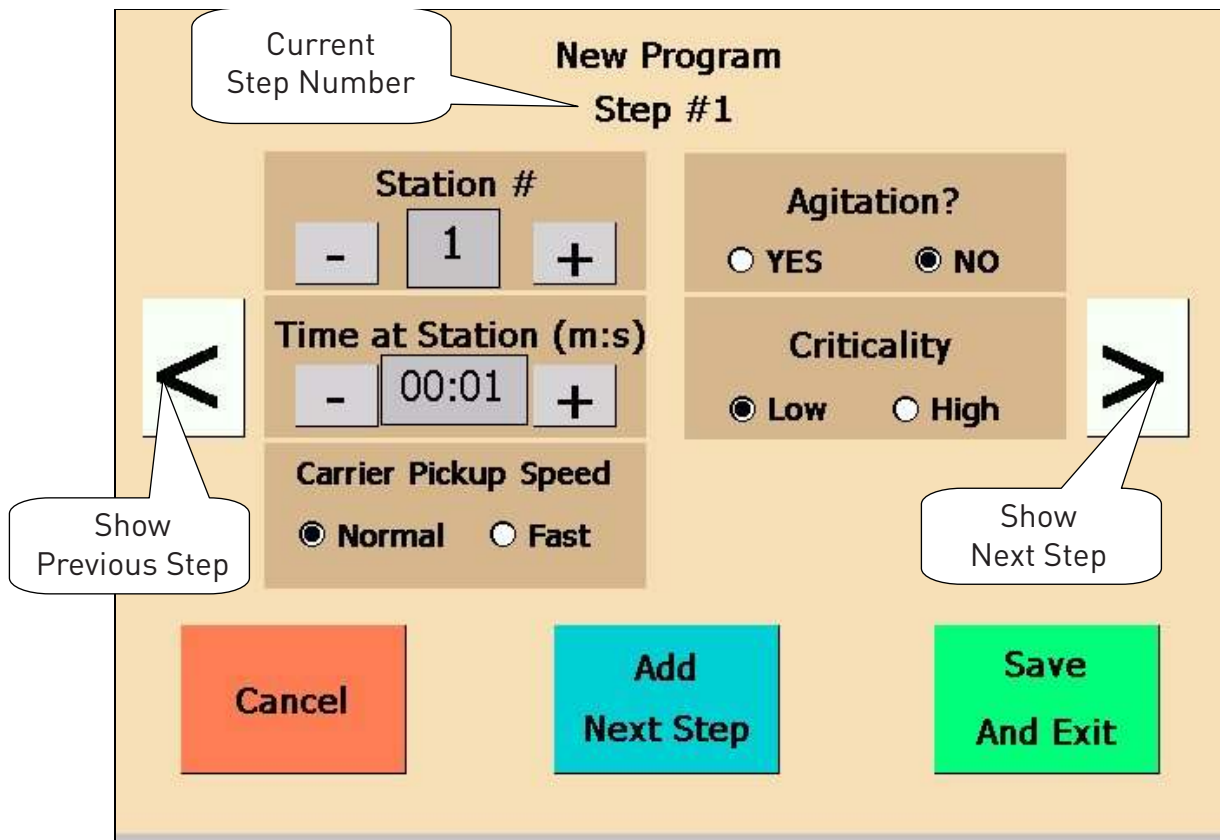

Figure 0-3: Editing Program Steps Screen
7. To add the first step of the program, select **Add New Step**. The following screen will appear with the step number clearly labeled in the heading as shown in Figure 0-3.